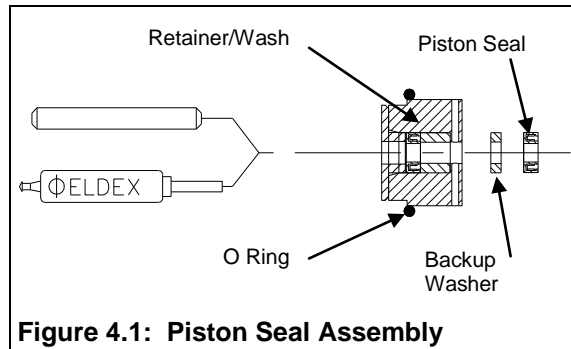

Figure 4.1: Piston Seal Assembly
3. Remove the liquid end from the pump as follows: Unscrew the two 5/32” socket head bolts. Pull the liquid end straight out from the pump housing, in line with the axis of the piston. If you cock or tilt the liquid end, you may break the piston. See Figure 4.1.
- Reinstall the liquid end on the pump. See Figure 4.1.